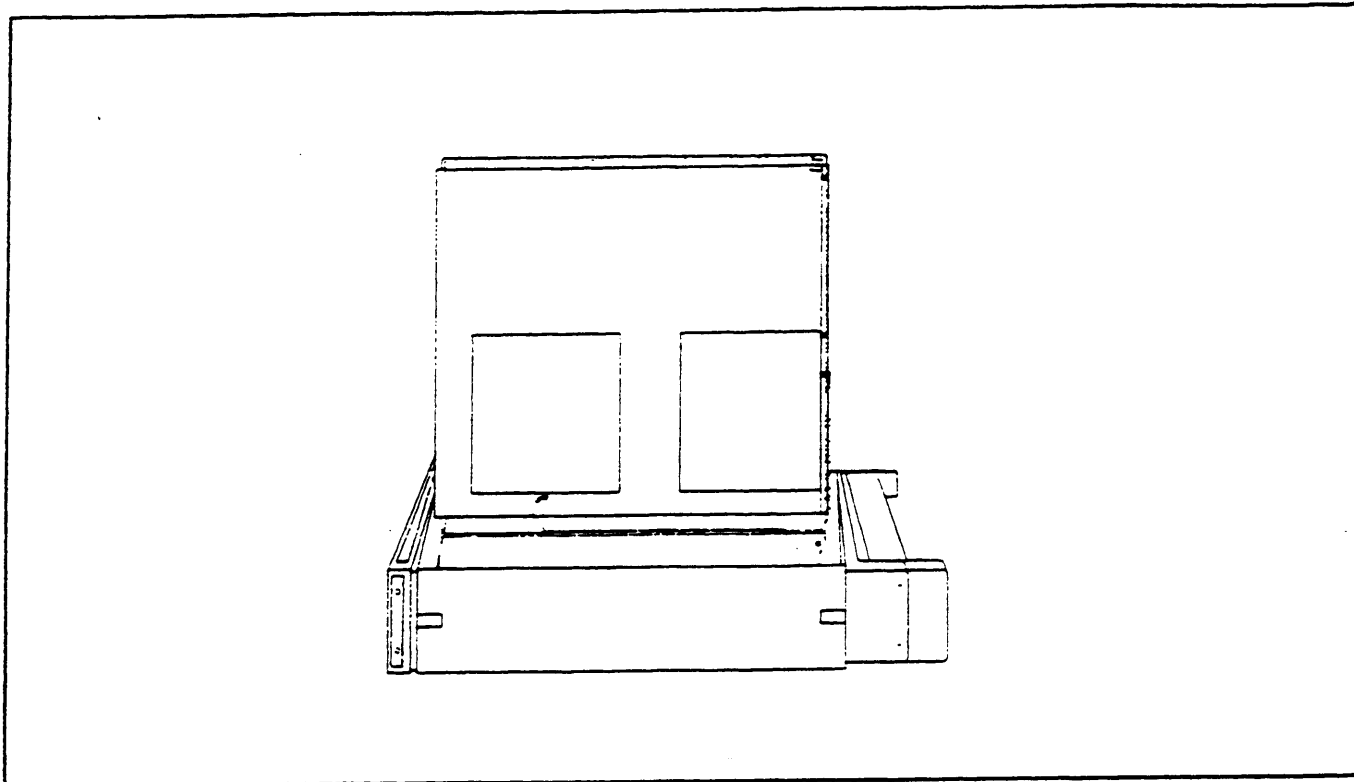

Figure 8-2. A3 Service Position.
**Procedure 3.** Remove the ten 10/32 inch nuts and washers (MP8 and MP9) from the top of the A3 circuit board. Rotate the circuit board on the hinged carrier MP6 up and to the right (Refer to Figure 8-2). To lock the carrier in place, press the spring loaded hinge towards the rear of the HP 8657B until it slides around the hingelock MP20.